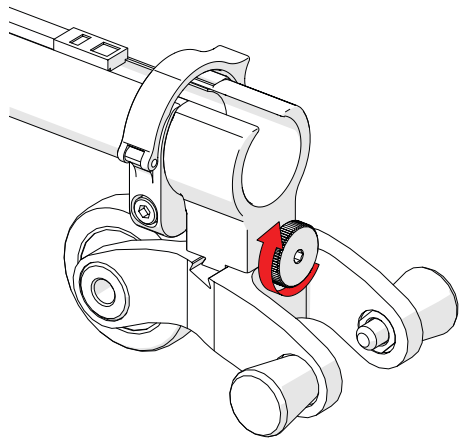

Fig. 94 - Tighten knob
- 2.** Once centred on the dovetail link, tighten the cable management's dovetail mount knob (*Fig. 94*).